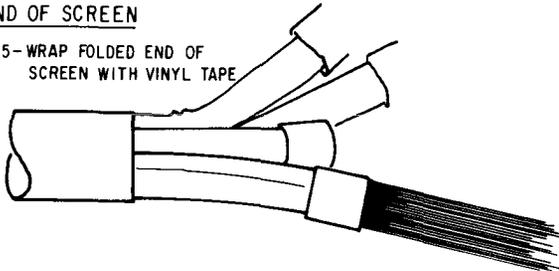

Fig. 21—Treatment of Screens in Quad-Screened Stubs at Splice
4.02 Prepare the cable sheaths for splicing as outlined in the section covering the type of splice case or closure to be used. Refer to Section 633-300-206 for sheath preparation when using a lead sleeve to enclose the splice. **It is important to ensure that stub cable shield is properly bonded to the shield of the main cable since this is the only means of grounding the repeater case.** Screens in quad-screened cables should be left floating. **Do not ground or connect to other screens.** The screens are to be prepared as shown in Fig. 21 to prevent sharp edges from damaging the DEPIC insulation.